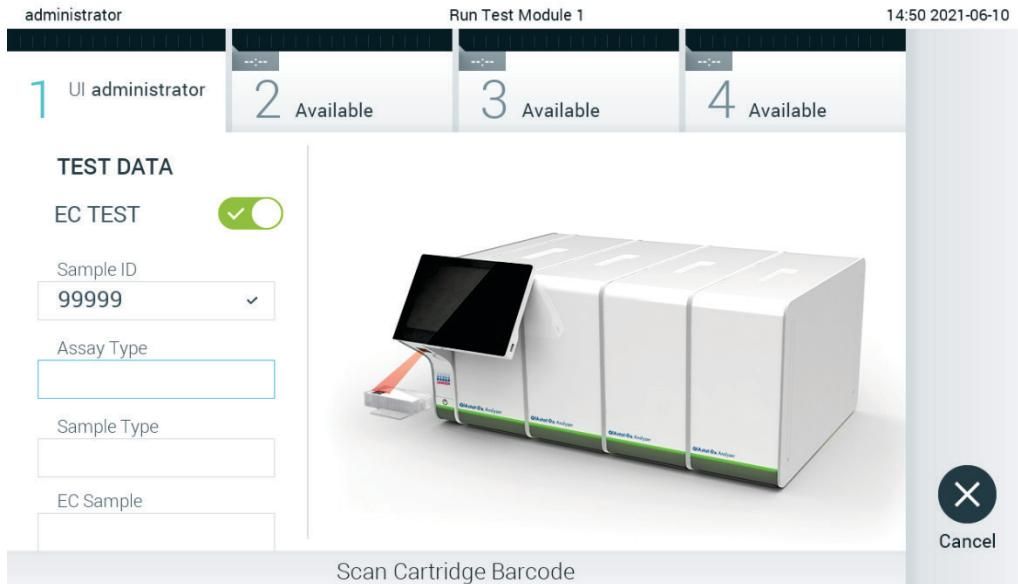

Figure 89. Scanning the QIAscan assay cartridge bar code.
- When prompted, scan the bar code of the QIAstat-Dx assay cartridge to be used. The QIAstat-Dx Analyzer 1.0 automatically recognizes the assay to be run, based on the QIAstat-Dx assay cartridge bar code (Figure 89, next page).